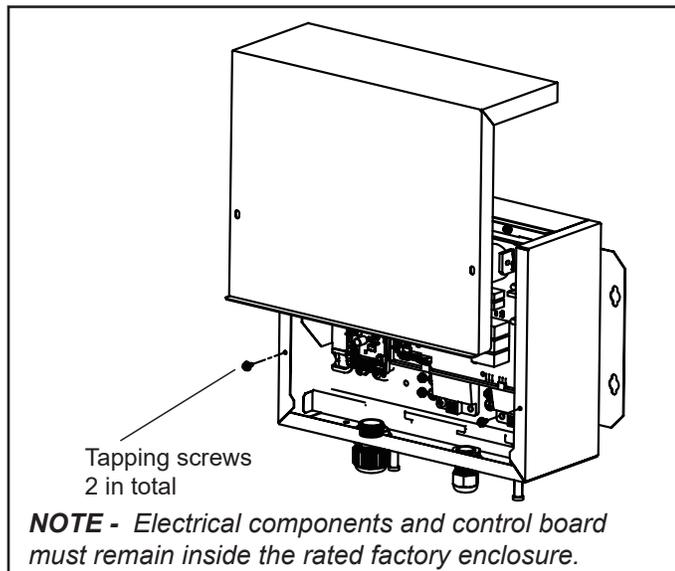

Figure 7. Remove Front Cover
- Electronic expansion valve of the kit may be moved out of the box and installed separately close to the coil. See Figures 7, 8, and 9.
2. Remove the two (2) screws securing the electrical control board assembly. See Figure 7.
3. Flip the electrical control board assembly forward 65° to expose the electronic expansion valve. See Figure 7.